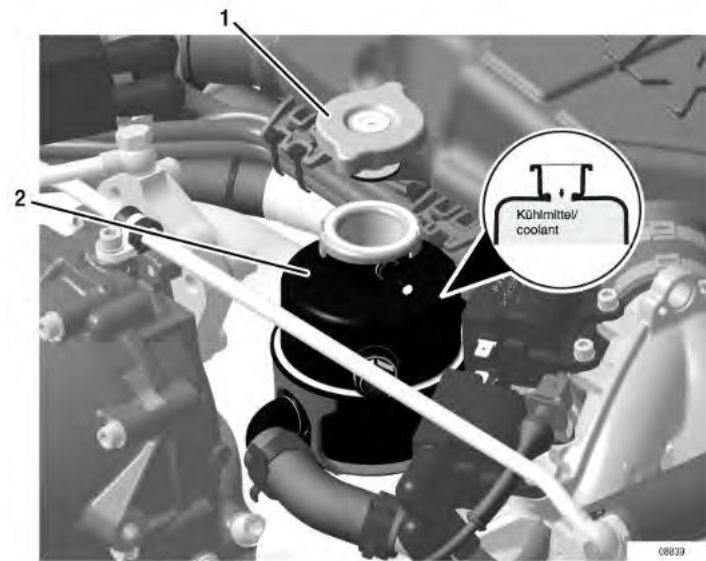

FIGURE 17-32
3. Open the radiator cap (1) on the expansion tank (2), shown in Figure 17-32.
10. Fill the expansion tank until the cooling system is full (see Figure 17-32), then install the radiator cap.